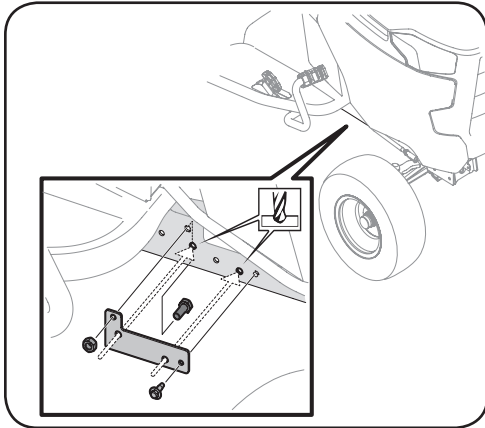

Figure 3-21
1. Align template A on the right side of the tractor as shown in secure in place with the hex screw, nut and screw from the Snow Cab/Sun Shade Mounting Kit. See Figure 3-21.
2. Drill the appropriate holes with the $\frac{3}{32}$ " drill bit provided in the Snow Cab/Sun Shade Mounting Kit. See Figure 3-21.